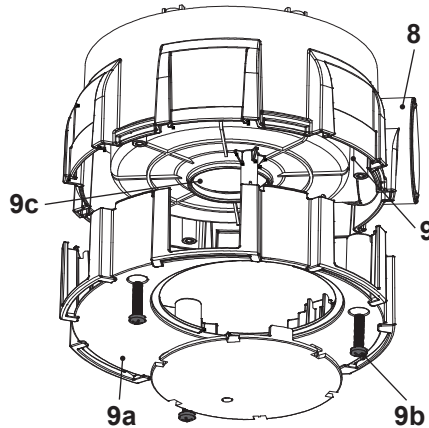

Fig. 7
If excessive deposits collect in the base, dismantle the bottom plate (9a) from the base (9) and clean the components (Fig. 7).